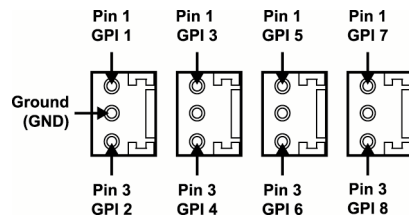

Figure 2.9 RM20-9229-C GPI Connections
- Refer to **Figure 2.9** for GPI configuration on the Rear Module.